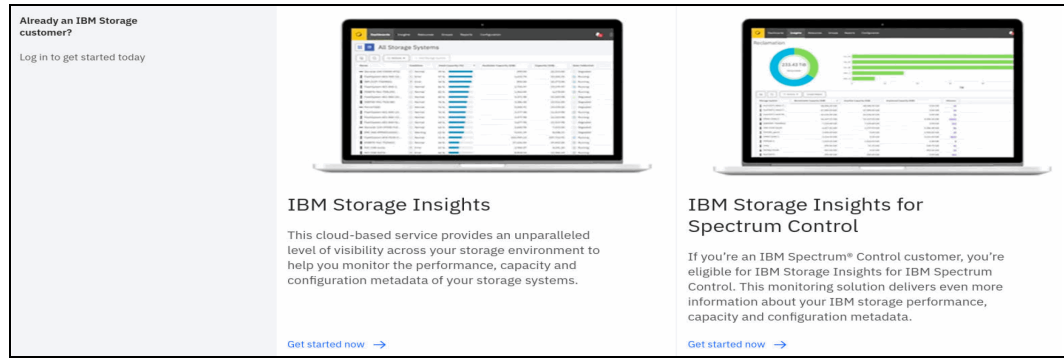

Figure 9-23 IBM Storage Insights or IBM Storage Insights for IBM Spectrum Control registration options
1. Figure 9-23 shows the registration options. Select whether you want to register for IBM Storage Insights or IBM Storage Insights for IBM Spectrum Control. For more information about the differences of the IBM Storage Insights software, see "" on page 571.